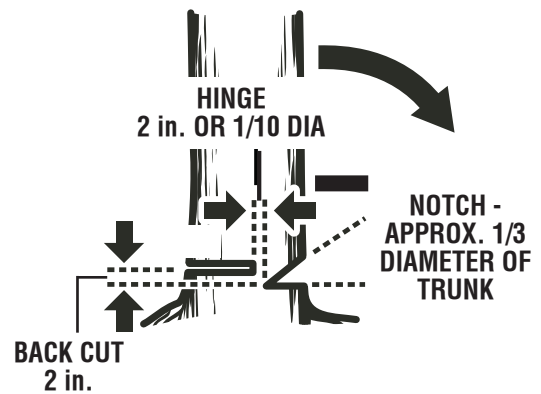

Fig. 13
- **Notched Undercut.** Cut a notch about 1/3 the diameter of the tree, perpendicular to the direction of fall. Make the cuts of the notch so they intersect at a right angle to the line of fall. This notch should be cleaned out to leave a straight line. To keep the weight of the wood off the saw, always make the lower cut of the notch before the upper cut. See Figure 13.
- **Felling Backcut.** The backcut is always made level and horizontal, and at a minimum of 2 in. above the horizontal cut of the notch. See Figures 13 - 14.
- Never cut through to the notch. Always leave a band of wood between the notch and backcut (approximately 2 in. or 1/10 the diameter of the tree). This is called “hinge” or “hingewood.” It controls the fall of the tree and prevents slipping or twisting or shoot-back of the tree off the stump. See Figures 13 - 14.